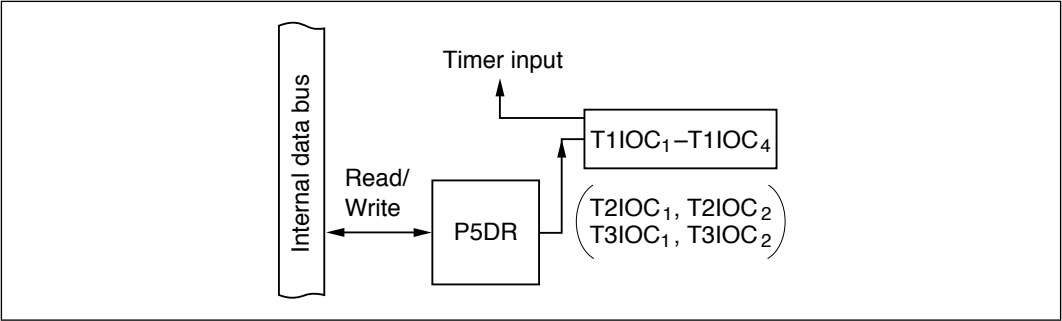

Figure 9-32 Input Capture Combined with General-Purpose Output (Modes 1 to 7)
(4) Timer Input Combined with General-Purpose Output (Modes 1 to 7): Figure 9-32 shows a block diagram illustrating the input capture function when combined with general-purpose output. Table 9-24 indicates register read/write data. An input capture pin can also function as an output port, in which case the output value is input to the timer.